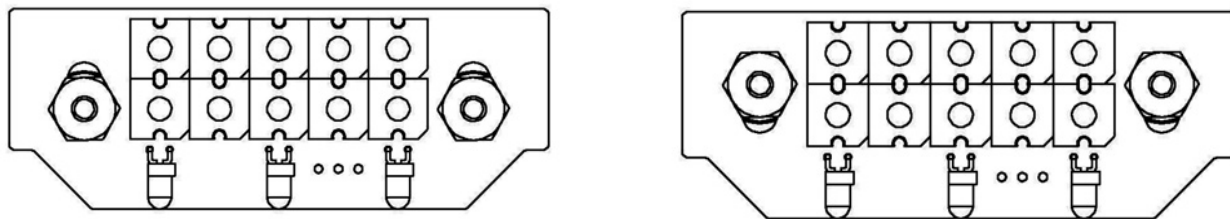

Figure 4
4. Install and lightly secure the Hex Standoffs onto each screw stud. Before tightening the standoffs firmly against the LED Board, determine which position is needed for your taillight assembly (Figure 4 Left: 253 & 255, Figure 4 Right: 250) refer to Figure 5 to determine your taillight assembly code number. Move the LED Board into the required position and secure the standoffs against the LED Board.